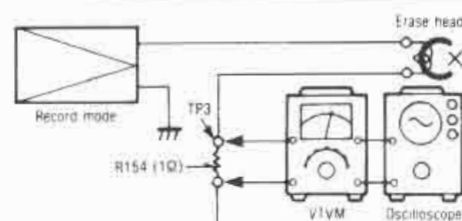

Fig. 10
- Test equipment connection is shown in fig. 10.